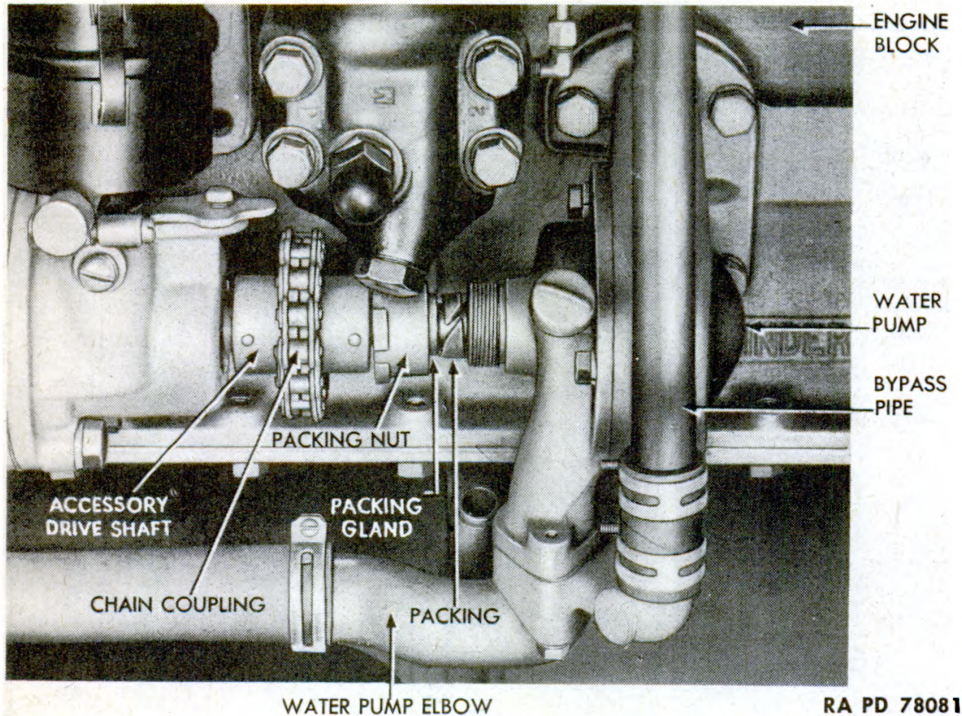

Figure 23 – Water Pump Packing Installation
d. Repacking (fig. 23).
- (1) Drain cooling system.
- (2) Unscrew packing nut, pry out packing gland, and remove old